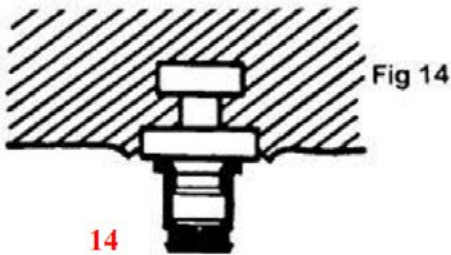

Fig 14
4. Substitute Model Females are placed over the Impression Males in the impression. Make sure the Substitute Female is fully seated (**Fig 14**).
4. Substitute Model Females are placed over the Impression Males in the impression. Make sure the Substitute Female is fully seated (Fig 14).